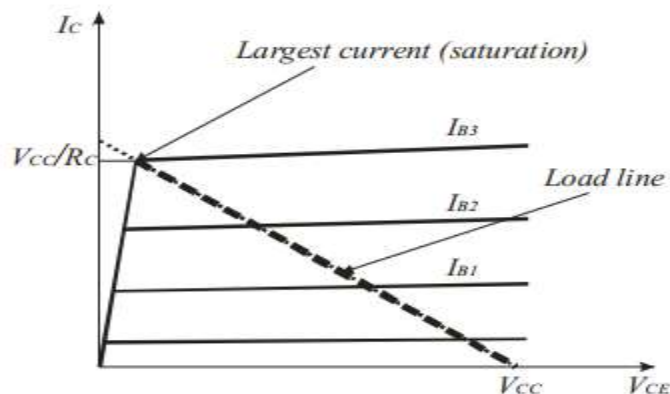

Figure 3.47. Graphical form of load equation
Equation (8) is the load line equation for this circuit. In graphical form it is shown on Figure 3.47.
As the base current increases the transistor may operate at points along the load line (thick dashed line on Figure 3.47). In the limit, the base current I_{B3} results in the largest current I_C . This is the saturation current and when the transistor operates at this point it is said to be biased in the saturation mode. In saturation, the base-collector junction is forward biased and the relationship between the base and the collector current is not linear.